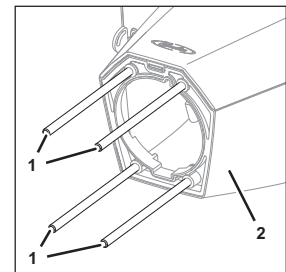

Fig. 9
1. Attach the threaded bolts (Fig. 9/1), on the stand (Fig. 9/2) of the unit, by screwing the threaded bolts into the stand (Fig. 9/2).